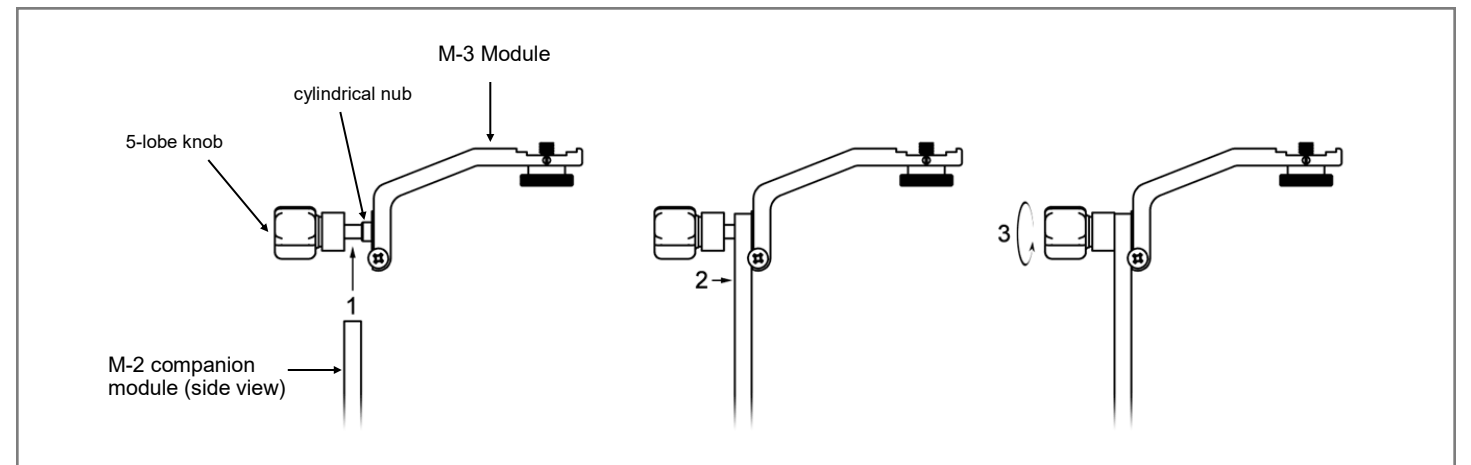

Figure 1
1. Unscrew the 5-lobe knob on one of the components until it reaches the end of its range, exposing about 3/8" of the threaded stud on which the knob rides. Do not try to back the captive knob all the way off. Slip the forked end of the companion module over the exposed threads (Fig. 1).